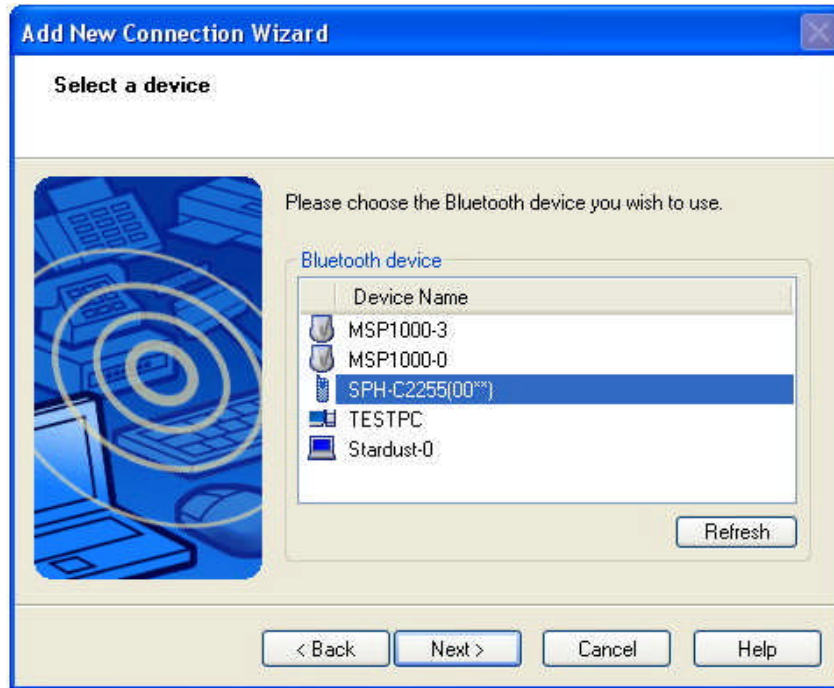

Figure 3.14: Select the Mobile Telephone
- c. Select the device name of the mobile telephone, and then click the “Next” button. (Figure 3.14)